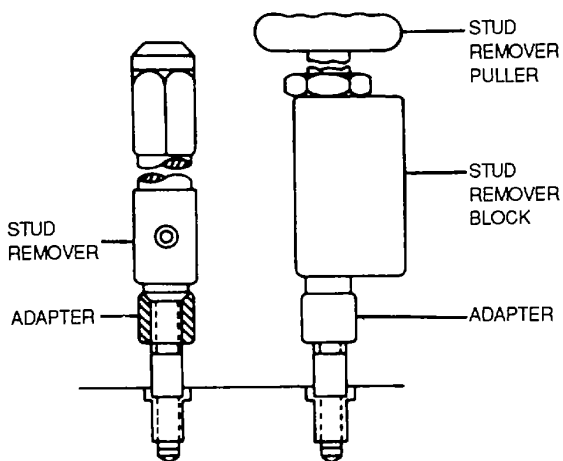

Figure 2-64. Stud Removal
(1) Place adapter, as shown in figure 2-64, in stud remover.
(2) Drive adapter down over threads of stud.
(3) Remove studs by turning stud remover with a wrench. If threads in parent material pick up and stud remover cannot be turned, remove stud remover from adapter.
(4) Place stud remover block and puller on adapter and remove adapter from stud.
(5) Cut off stud close to parent material.